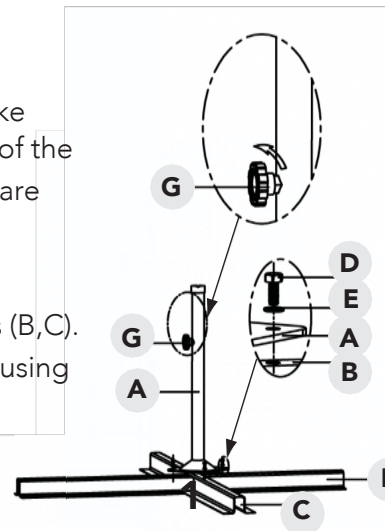

Figure 1
STEP 3: Interlock the two Base Cross Section pieces (B,C). Attach the Base Pole (A) to the Base Cross Sections using the base hardware (D,E), as shown in Figure 1.
STEP 4: Install (4) pavers or weighted base (sold separately), with a total weight of at least 140-lbs, on Base Cross Sections (B,C) for stability.